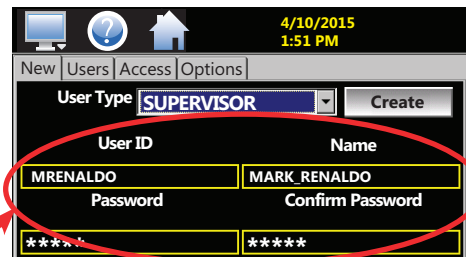

Fig. 21: Set up New Supervisor Account
9. Press the USER ID, NAME, and PASSWORD boxes to bring up the keyboard for each category and enter the relevant information. After entering each category, hit DONE in the lower right-hand corner on the keyboard. When finished, press CREATE (Fig. 21).